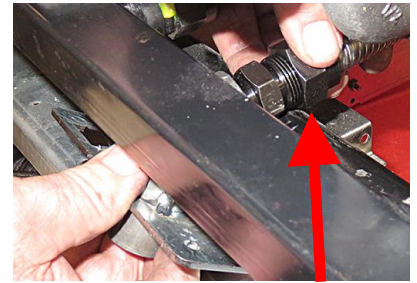

Figure 75
75. Attach the flexline #2 from the dispose switch assembly in Figure 32, to the dispose outlet assembly (see Figure 75).